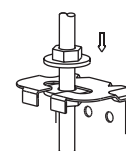

Fig.5-7
- Locate the air conditioner firmly by wrenching the nuts after having adjusted the body's position well. (refer to fig.5-7)